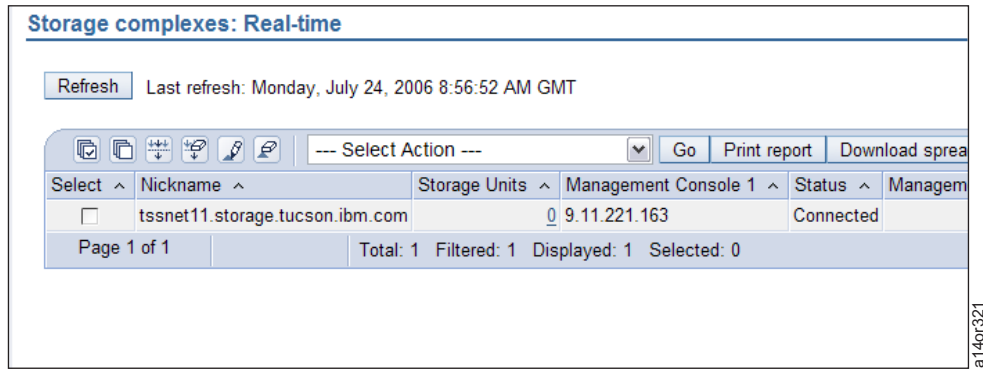

Figure 246. Storage Complexes : Real-time Screen
6. From the resulting list (not shown), select **Manage hardware**, then select **Storage complexes** from that resulting list. Figure 246 on page 211 displays.
8. Enter into the "Management console 1 IP address" field the TS7700 IP address that was used for TSSC attachment. This address should be in the form '172.31.1.x'. Select **OK**. This returns you to Figure 246. Your storage complex should now be listed. For all further DS6000 service information including firmware upgrade, refer to IBM Knowledge Center (<http://www.ibm.com/support/knowledgecenter>).